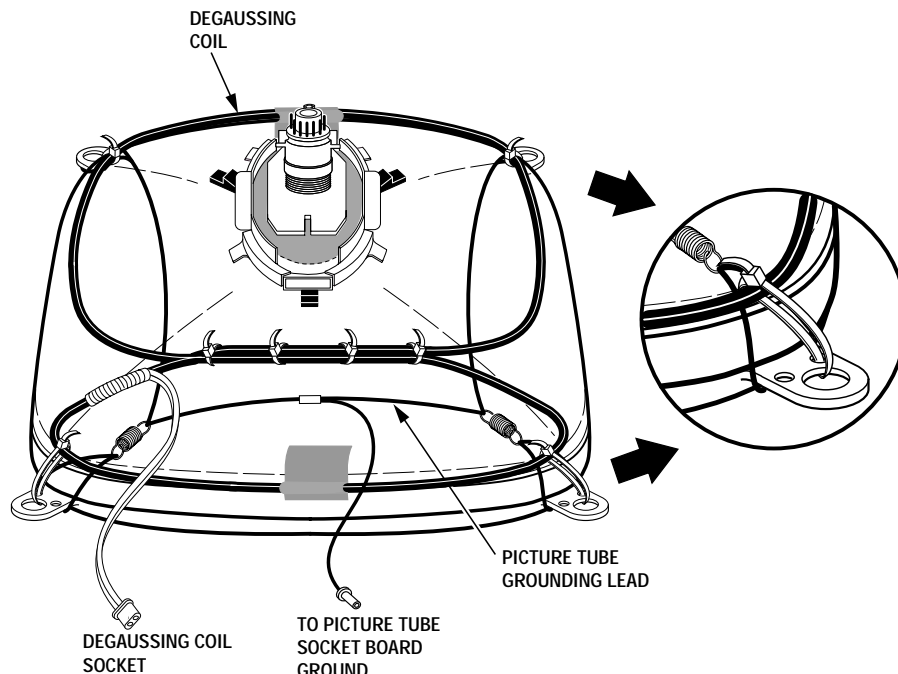

Figure 2. Picture Tube Removal
4. Install a replacement picture tube in reverse order. Properly install the degaussing coil and picture tube grounding lead on the picture tube. See Figure 2.
Note: If Picture Tube is being replaced, mount the Degaussing Coil properly on the tube. See Figure 2.